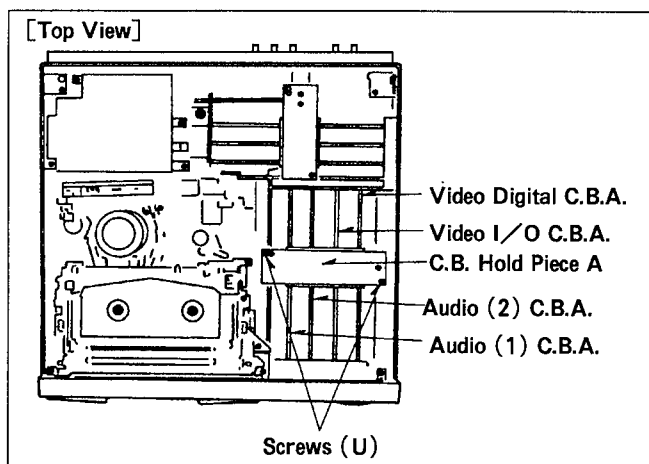

Figure D26
1. Unscrew the 2 screws (U) and remove the C.B. Hold Piece A. (Figure D26)
2. Carefully pull out the Video Digital, Video I/O, Audio (1) and Audio (2) C.B.A. from Mother C.B.A. (Figure D26)